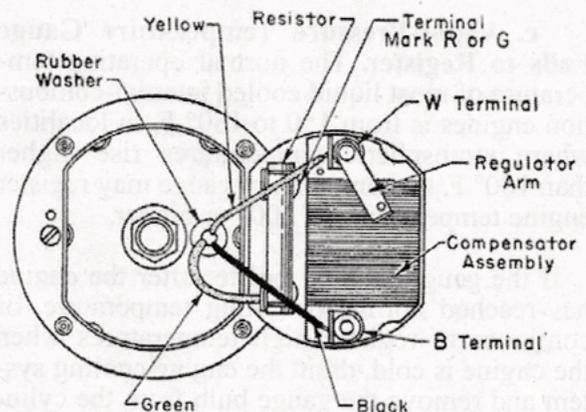

Fig. 22. Typical Wiring of Electrical Speedometer and Tachometer Heads
another head may be substituted for testing purposes. To determine whether or not there are any grounded connections inside the head, test for grounds as described under "Test Procedures" in this section. A typical wiring diagram of a speedometer and tachometer head is illustrated in Fig. 22.
Test the sending unit or substitute another unit known to be in good condition as a test. If the pointer still fluctuates, inspect for grounds in the head (Fig. 22) or in one of the lead wires as described under "Test Procedures" in this section.
(3) HEAD TESTS. Two tests may be made to check the operation of an electrical speedometer or tachometer head. The compensator and resistor assembly shown in Fig. 22 may be tested as one unit. The armature may be tested for grounded or open circuit.
(b) ARMATURE. A regular six-volt head light or taillight bulb may be used to test the armature. Remove the head from the vehicle and unsolder the lead wires on the back plate. Connect the bulb in series with one of the lead wires unsoldered from the back plate. Connect another lead wire from the battery to anyone of the other lead wires (yellow, green, or black) on the back plate (Fig. 22).